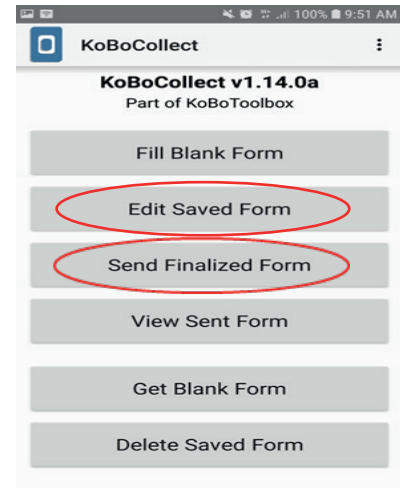

Figure 52: KoBoCollect App - Accessing Saved and Finalized Forms
3. Once the form is marked as finalized, it will be found under the “Send Finalized Form” tab on the Home Page; in addition to this the user will not be able to edit it on the device. If this option is not ticked, the form will be found under the “Edit Saved Form” on the Home Page, whereby it can be edited on the device. (Figure 52)